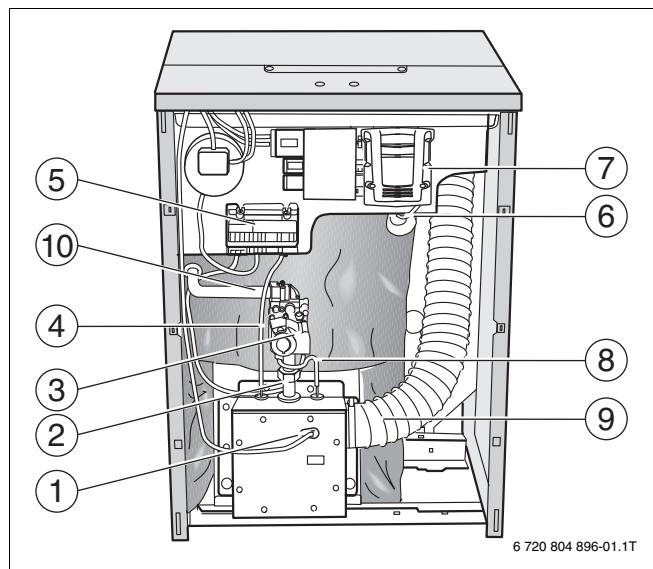

Fig. 38 Front view
10. Release air supply hose (→ Fig. 38) and pull off burner box.